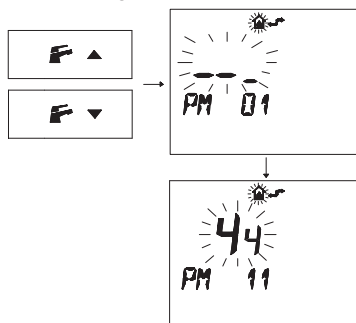

Fig. 7.33
- Press buttons **F** **▲** or **F** **▲** to display the "PM11" program of the pump post-circulation (Fig. 7.33).